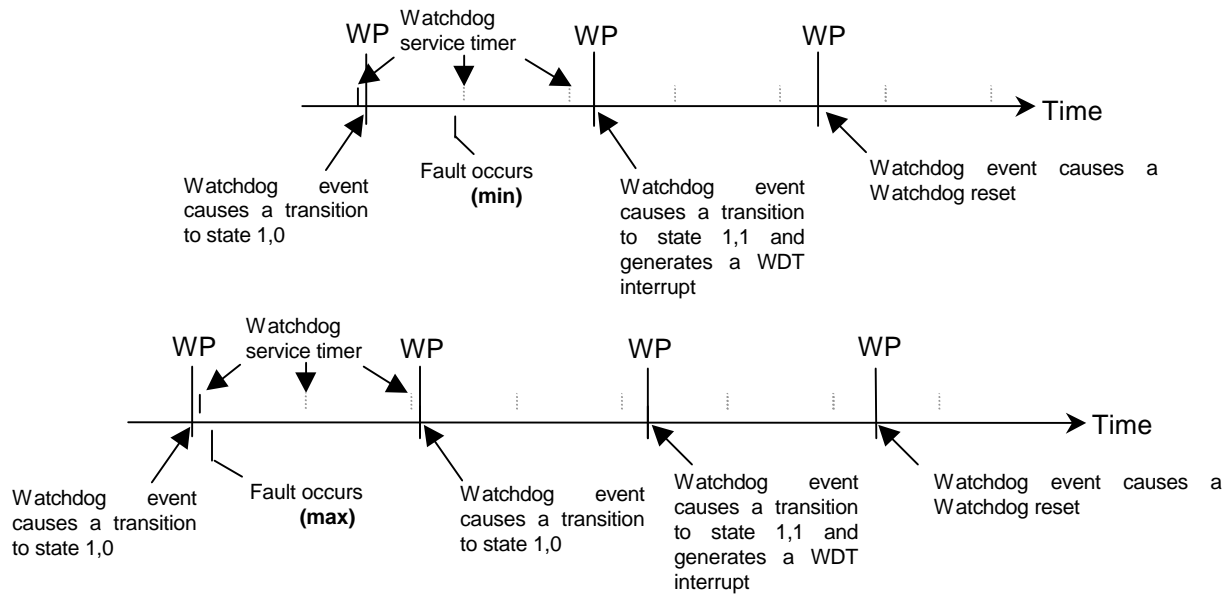

FIGURE 8. Time until a Watchdog Reset for Method 2
For method 2 the minimum and maximum time from a fault occurring until a WDT reset occurs, based on programmed Watchdog Periods (WP), are approximately 1.5 to 3 WPs based on the point during the WP when the fault occurs. This time is also dependent on the choice of the Watchdog service timer interval. This is shown graphically in Figure 8. (Presumably the Watchdog service timer stops when a fault occurs, so the dashed service timer lines indicate where the service timer would have occurred)
The Watchdog service timer must be set with a shorter period than the WP. The question then becomes how much shorter. The Watchdog service routine should have sufficient time to be taken and complete before the WP expires. Figure 8 shows a Watchdog service timer period of just under $\frac{1}{2}$ the WP. The